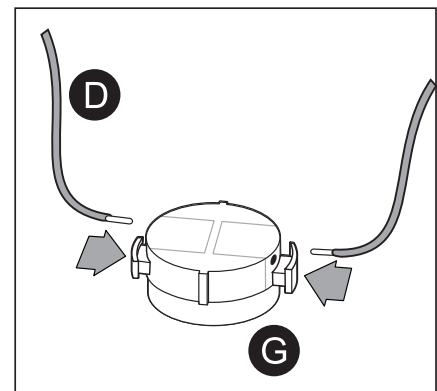

Fig. 3
1. Push the side bars on the block (G) and insert the branch cables (D) as shown. Release the side bars to secure the branch cable (Fig. 3).